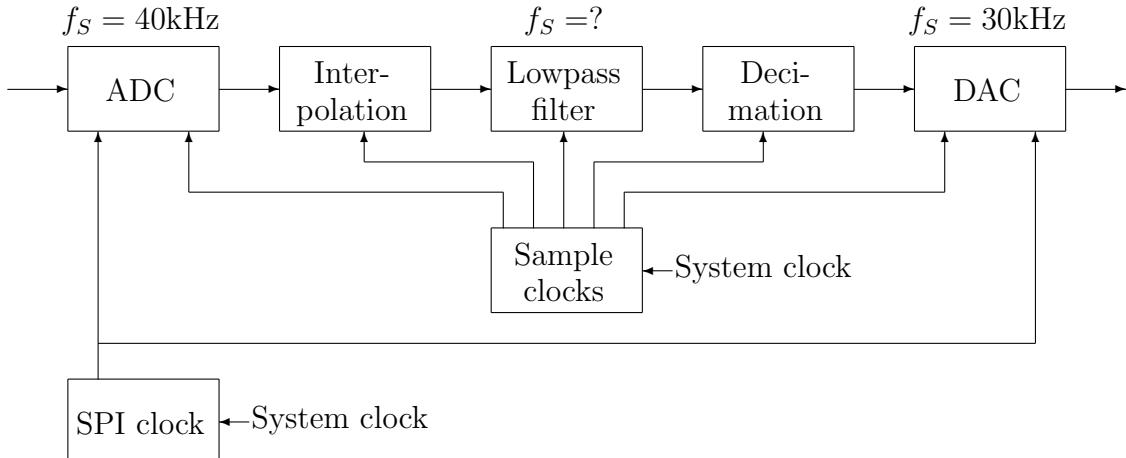

Figure 1: A mixed-rate system
Figure 1 shows a block diagram of the mixed-rate system to be designed and
- Identify the blocks needed to implement the system in Figure 1, and make note of any necessary modifications and extensions. For example, to generate the different sample clocks, you will need to extend your clock-enable module to several outputs. (An alternative could be to use several modules with one output each.)
Preparation: Starting with the input and output sample rates as given in Figure 1 and taking into account the integer-factor requirement, determine a usable intermediate sample rate. *Note:* the clock-generation method used in the previous labs can only generate sample rates with an integer relation with the system clock, which will not be sufficient to achieve the exact desired clock rates. Select rates as close as possible to the desired ones.
- Implement and test the system of Figure 1, following the practices from the previous sessions. It is recommended that you work incrementally, starting from the Lab-5 solution and adding blocks one by one in a suitable order. Document your progress.